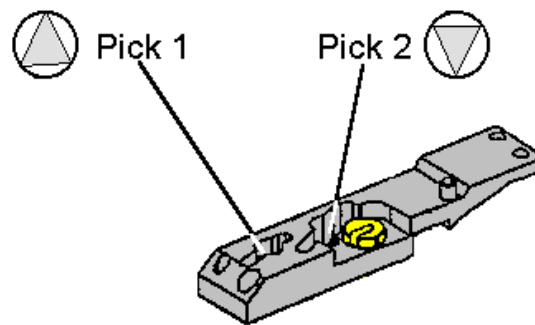

FIGURE 2.3.2a
- Pick 2:  Lower Feeder. The other pick position. See also figure 2.3.2a.